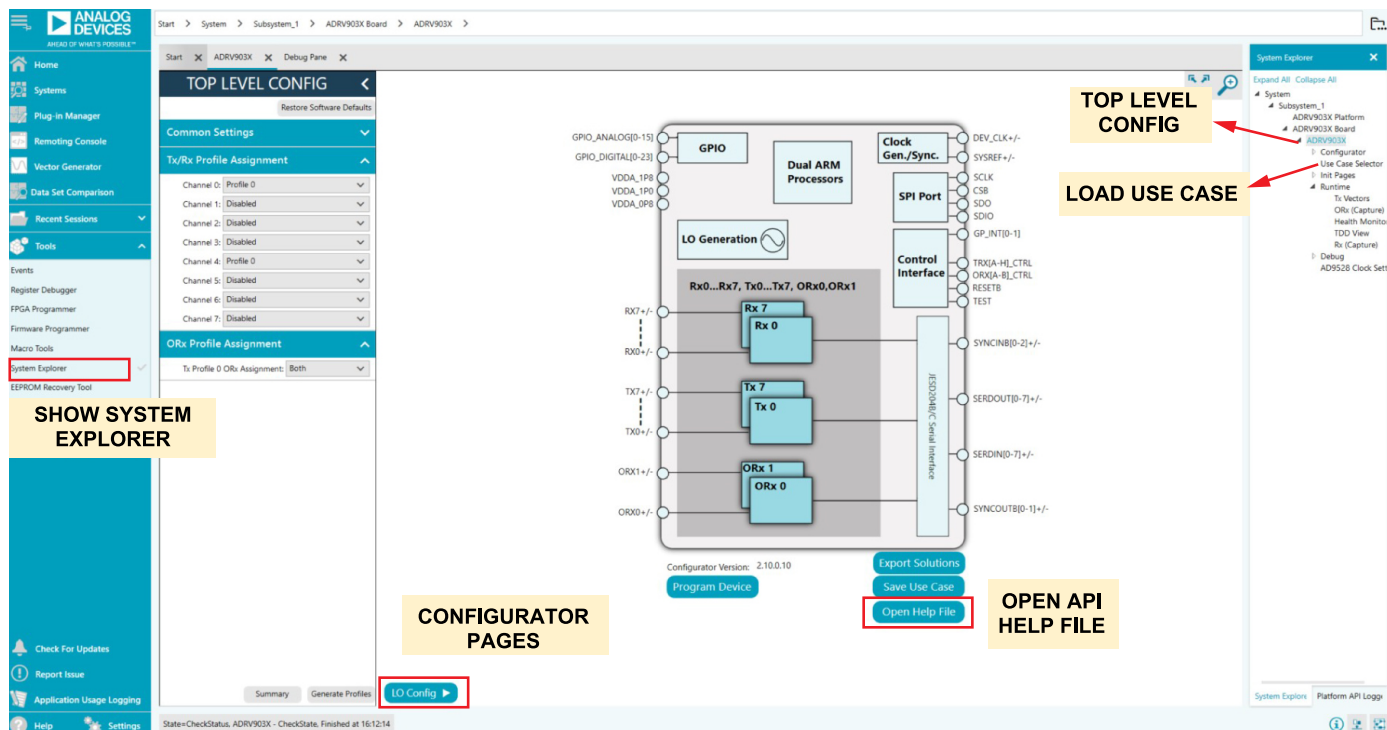
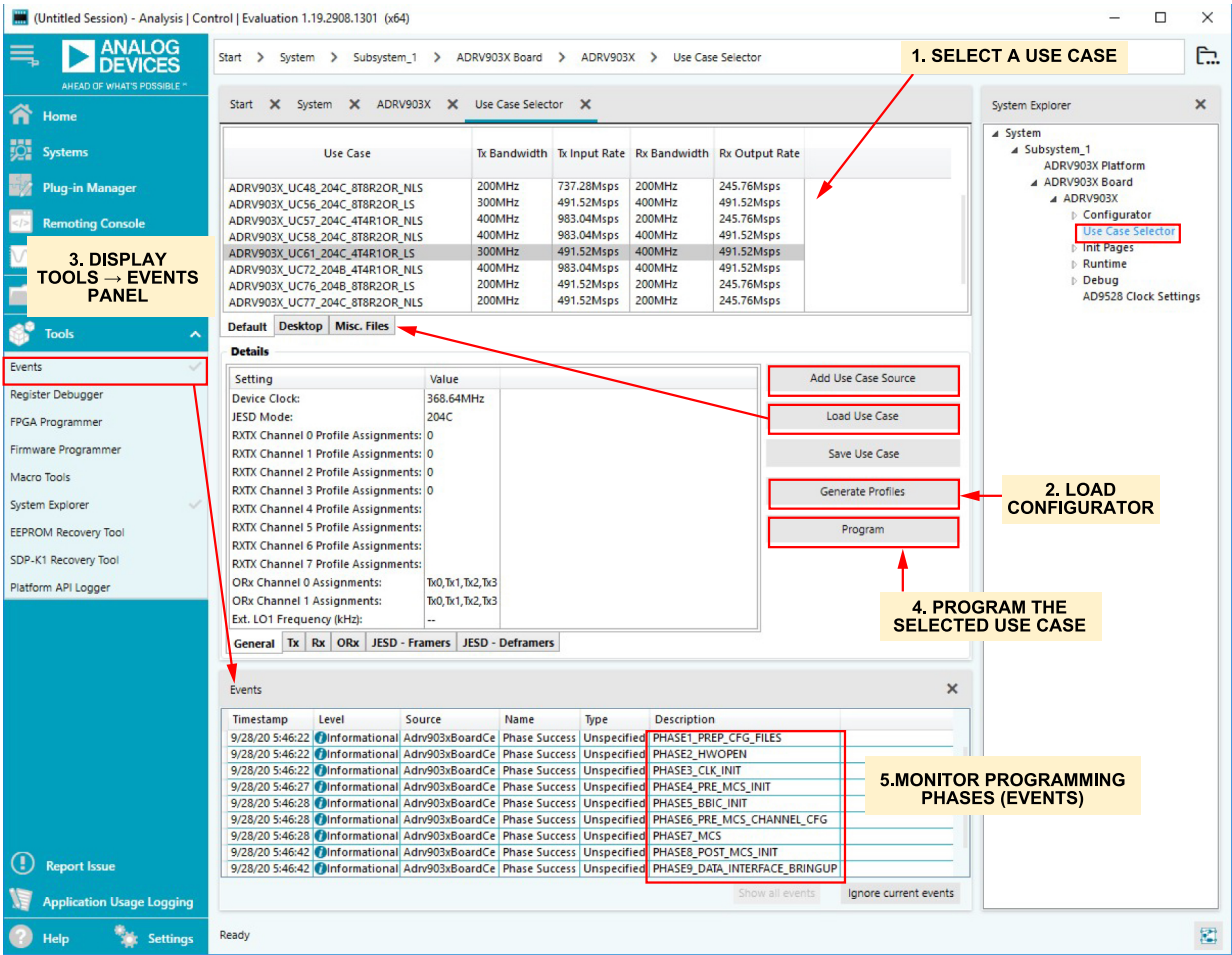

Figure 10. Launching the ADRV903x Plugin Opens the ADRV903x Configurator Top Level Config Page
Figure 11. Loading a Predefined Use Case from Use Case Selector Page
- ▶ **Top Level Config** (see Figure 10): maps various **Tx/Rx Profile Assignment** and **ORx Profile Assignment** channels to profiles, export the current state of the configuration as a JSON use case, view the device **Open Help File**, and access the configuration pages.
- ▶ Subsequent configuration pages can be used to configure the local oscillator (LO), carrier digital up conversion (DUC), transmitter, carrier digital down conversion (DDC), receiver, observation receiver, and JESD settings to arrive at and validate a desired ADRV903x use case.
- ▶ **Use Case Selector**: if running the selected use case default settings, refer to Figure 11. If running a modified use case, use a **ADRV903x Configurator** at the top level as shown in Figure 11.
- ▶ Track the ADRV903x device programming phases through the ACE **Events** window, as shown in Figure 11.
1. Select the desired use case from the **Use Case Selector** as shown in Figure 11.
Once the **ADRV903x Configurator** pages are loaded by generating profiles, the user must then modify the selected use case default settings as shown in Figure 11. Such a modified use case must be programmed from the ADRV903x **Top Level Config** page as previously shown in the ADRV903x Plugin Overview section. The modified use case can also be exported as a **.json** file from the ADRV903x **Top Level Config** page.